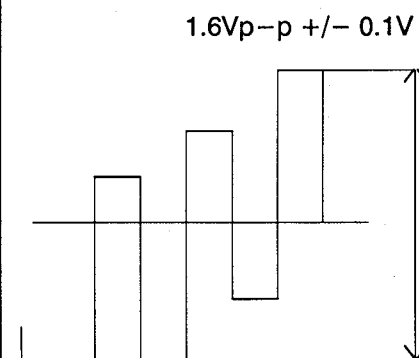

Fig.11.
2. Adjust the sub colour (**R606**) for $1.6V_{p-p} \pm 0.1V$ at **TPC15 (TPE15)** as shown in Fig.11.